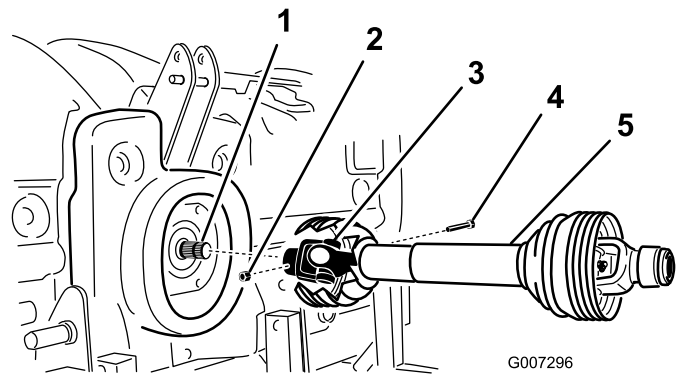

Figure 8
2. Connect PTO shaft to gearbox input shaft with a 1/2 x 3.00 inch bolt and 1/2 inch nut (Figure 8).